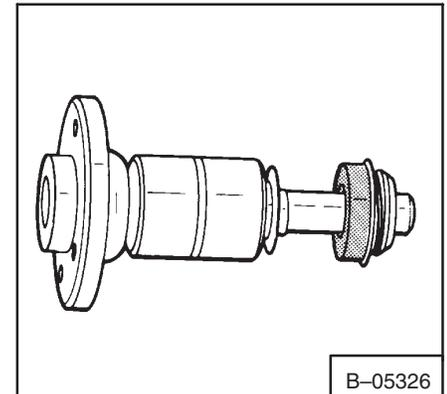

**Fig. 7C-91** Removing Pulley
5. Remove the seal (Fig. 7C-93).